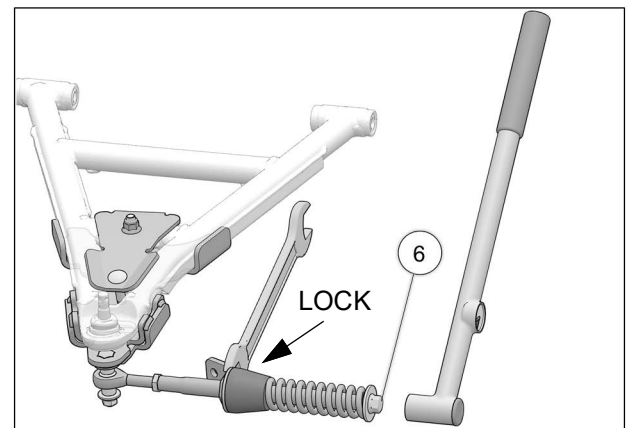

Fig. 19
11. Verify that spring assembly bolt (6) is tightened to the recommended torque specification: 75 Nm [55 lb•ft]. Make sure to lock in position, the large nut in front of the rubber cone damper. Refer to Fig. 19